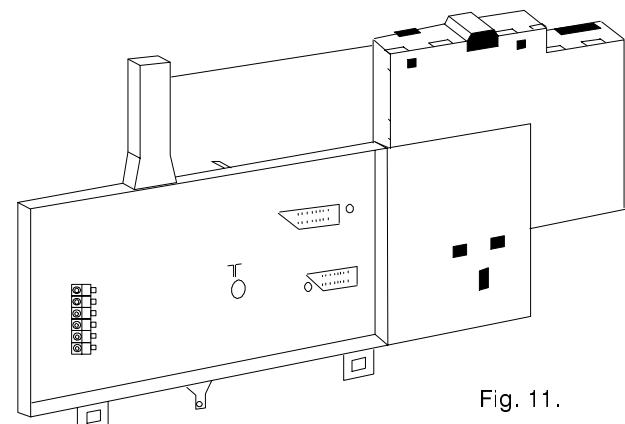

Fig. 11.
4. Unclip the front metal cover (Fig11) and remove from the A-board.